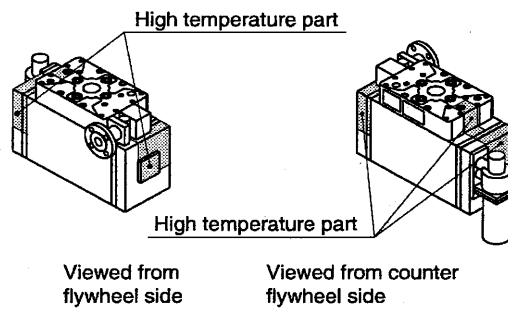

Fig. 5
- * ***During operation and just after the compressor has stopped, never touch the cylinder head and cooler cover that become very hot. (Fig. 5)***